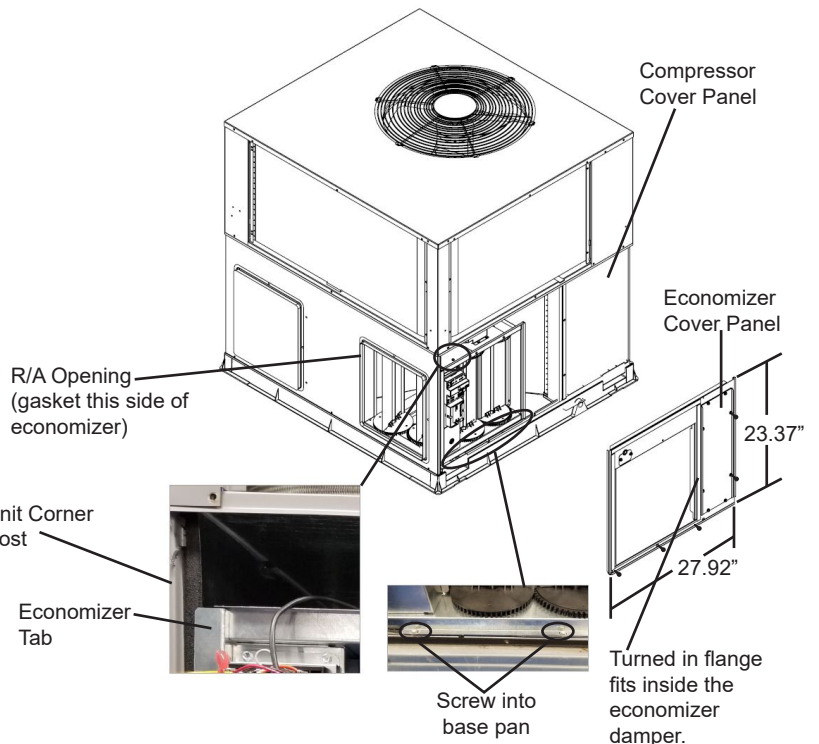

Fig. 5 - Economizer Installation
9. Install the 5/8" gasketing on the duct side flanges of the economizer, see Fig. 5. Turn the economizer on its side. Slide economizer into cabinet and as far to the left as possible. The economizer will set against the left side of the unit and will cover the horizontal return air opening. Caulk as required.
10. Install the replacement return chamber panel over the economizer assembly and underneath the drip flange on the HVAC unit. Line up the bottom left hole on the panel with the hole in the bottom of the economizer and the mating hole in the base of the HVAC unit. Insert screw, which will hold all parts in place. Insert screws on bottom and right of panel as well. See Fig. 5.